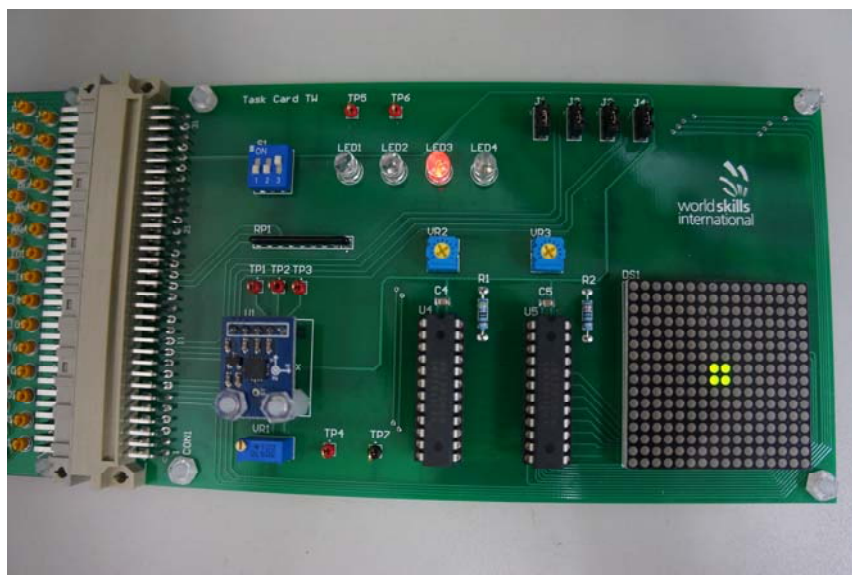

Figure 3
- (1) When S1 is 001, DS1 should function as a 2D water level meter immediately.
- (2) When the PCB is lying on the table, a GREEN bubble with 2×2 dots should be displayed in the center of DS1, as shown in Figure 3.